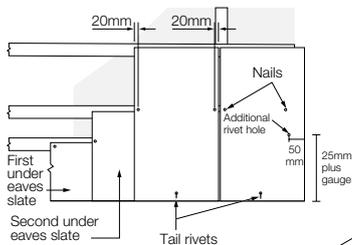

Fig. 9 – 1st course of full slates
- 10 Fix the first course of full size slates. At the verge another 4mm dia. hole is required to allow for the copper disc rivet for the course above. This is drilled 50mm from the verge edge of the slate and 25mm, plus gauge, from the bottom edge of the slate or tail (Fig. 9). The rivet must be inserted before nailing the slate in position.